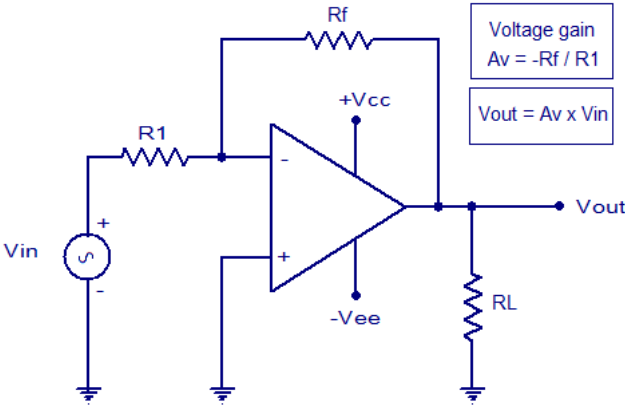

Figure 3.1: Inverting amplifier
1. Connect the circuit as shown in fig 3.1 on the breadboard.